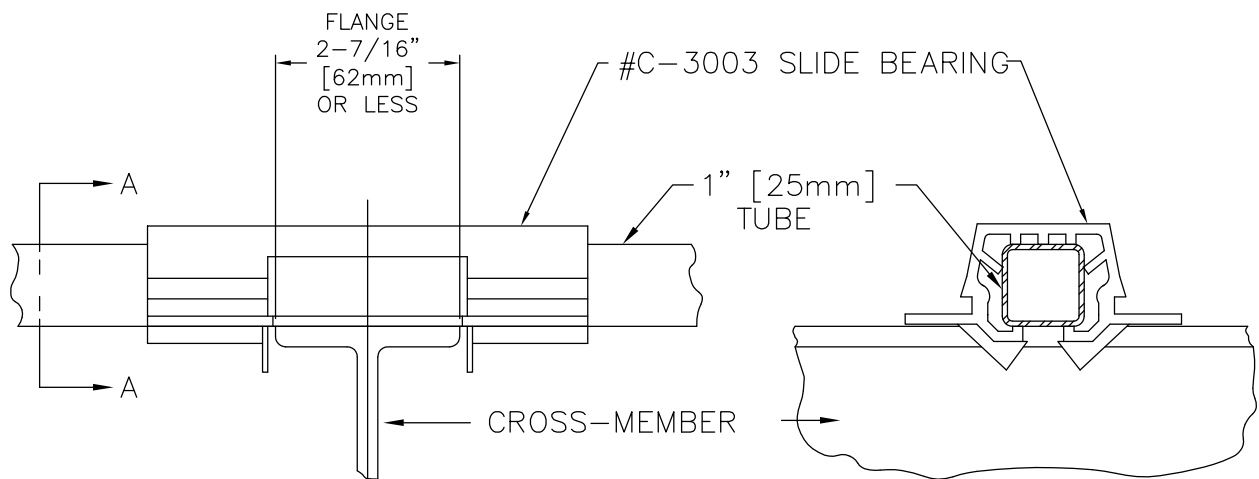

Figure 4
2. Check the cross-member flange width for proper bearing fit (Figure 4).